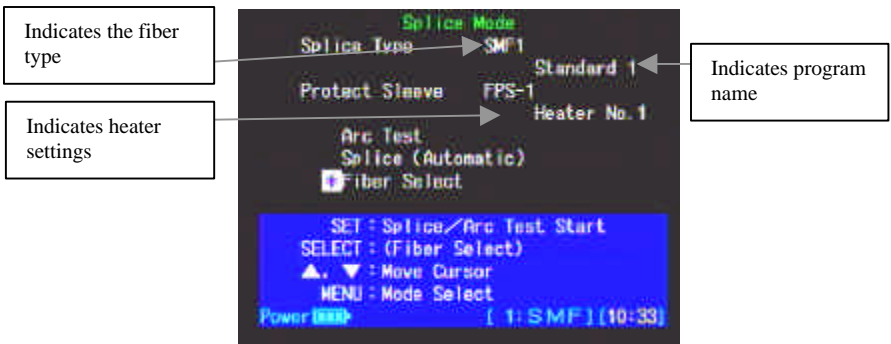

Figure 27. Splice Mode Menu Screen
13.1.1 The Splice Mode Menu shown in Figure 27 is the normal mode of operation. This mode is used for all splicing operations. When the splicer is first turned on, or the "RESET" key is pressed the splice mode menu screen will appear.
- **SPLICE**- Activated by pressing the "SET" key, this function initiates the splicing process. In Figure 27, (Automatic) indicates that the splicing process is set for automatic splicing. To change to manual splicing refer to Section 13.6.3, *Changing Splicing Mode Operation*.